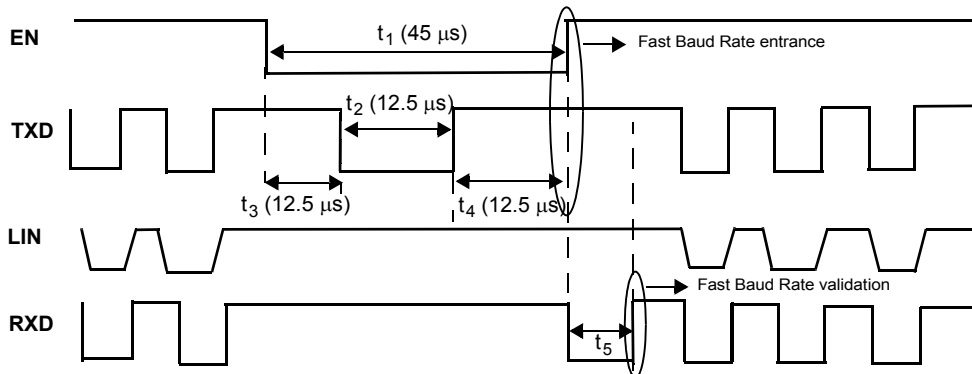

Figure 19. Fast Baud Rate Selection (Toggle Function) for LIN1 or LIN2
- 30. See Figures 19 and 20
For each LIN Module, the Fast Baud Rate selection is reported by the RXD pin. Fast Baud Rate is activated by the toggle function (See Figure 19). At the end of the toggle function, just after EN rising edge, RXD pin is kept low for  $t_5$  to flag the Fast Baud Rate entry (See Figure 19).
A combination of the logic levels on EN1 (EN2) and TXD1 (TXD2) pins allows the device to enter in Fast Baud Rate mode of operation (see Figure 19).
The LIN Module enters into the fast baud rate if the delay between step 1 to step 5 is 45  $\mu$ s maximum. The toggle function is described in Figures 19. Once in fast baud rate, the same toggle function just described previously is used to bring the LIN Module 1 back into normal baud rate.
Fast baud rate selection is reported to the MCU by the RXD1 pin. Once the LIN Module 1 enters in this fast baud rate, the RXD1 pin goes at low level for  $t_{\xi}$ . When LIN Module 1 returns to normal baud rate with the same toggle function, the RXD1 pin stays high. Both sequences are illustrated in Figures 19 and 20.